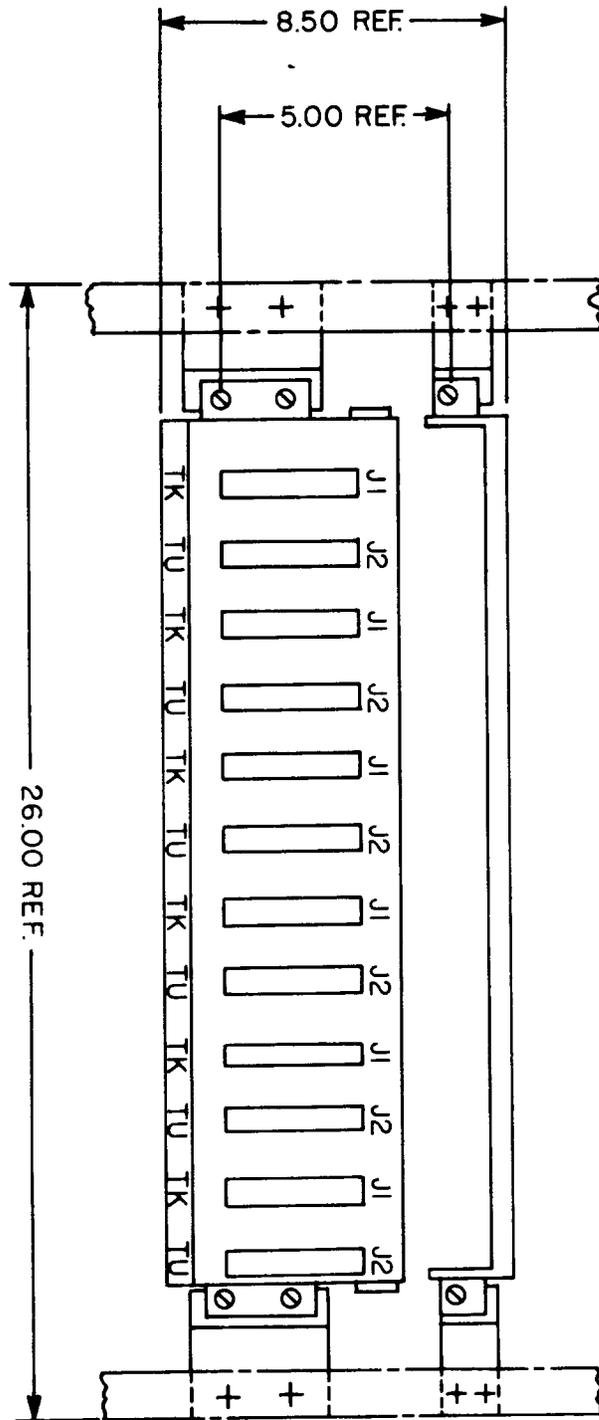

Fig. 1 — J99392A RSTC Shelf Assembly
1.06 The J99392A RSTC shelf assembly (Fig. 1) consists of a 23-inch steel stamped shelf, a stamped cover, and a stamped, factory wired back-